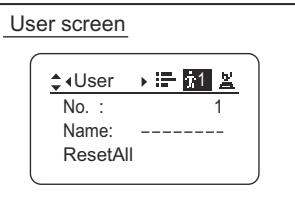

Fig1-3
1. User screen (See Fig. 1-3 below)